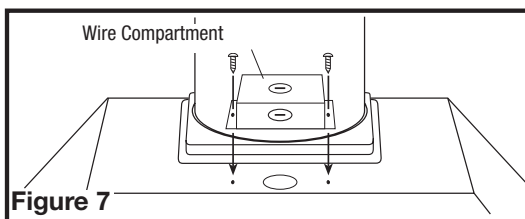

Figure 7
- Attach the wire compartment to the power unit with two of the provided #6 blunt tipped screws (Figure 7).